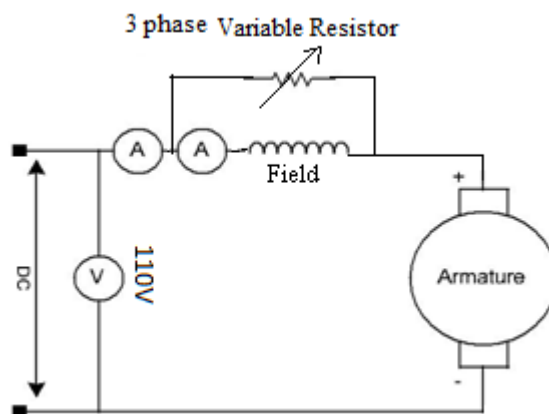

Figure 8.1: Speed control of DC series motor using flux control
In flux control method, a variable resistance also called flux diverter is connected in parallel with the field winding. Its purpose is to divide some portion of line current from series field winding, there by weakening the flux and increasing the speed since speed is inversely proportional to flux ($N \propto 1/\phi$). The lowest speed obtainable is that corresponding to zero current in the diverter and it is also the normal speed of the motor. Consequently, this method can only provide speed above the normal speed of motor. The circuit diagram for speed control of series motor using Flux Control Method is shown in Figure 8.1
1. Make connections as shown in the Figure 8.1 by placing a variable resistance in parallel with the field winding.